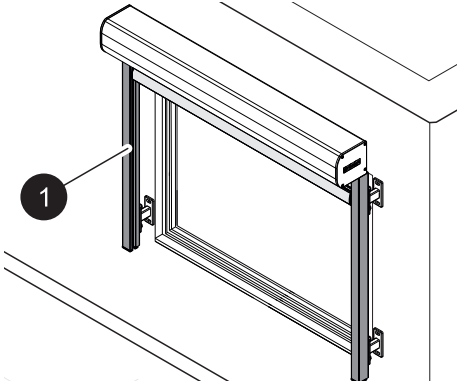

Fig. 18: Cleaning the guide rails
4. Brush the cable guides (Fig. 18/1).